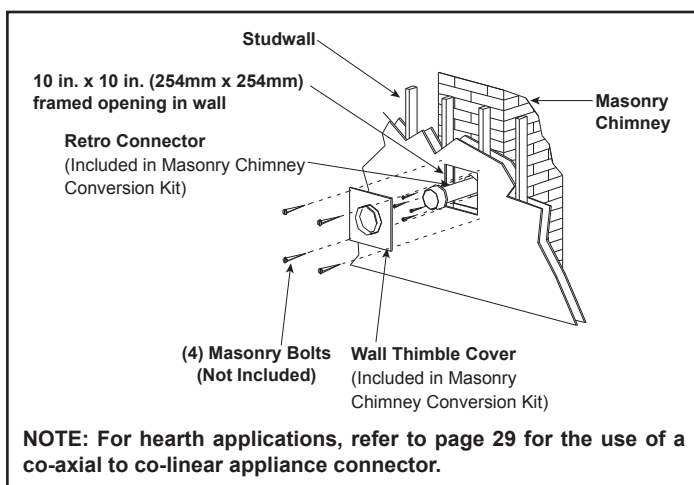
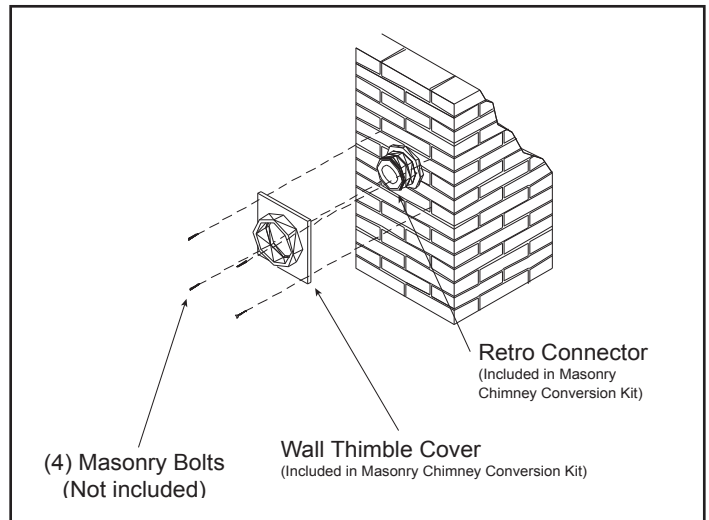

Figure 4.25
Figure 4.30
2. Once the center point of the penetration has been determined, cut a 6 in. (152mm) diameter hole in the masonry. If the hole is too large, the retro connector might not mount properly; if the hole is too small, the appliance might starve for intake air. If there is a frame wall in front of the masonry wall, cut and frame a 10 in. (254mm) square opening in the wall (centered around the 6 in. (152mm) masonry opening). If there is sheet rock only (no studs) in front of the masonry the 10 in. (254mm) opening is still needed, but does not need to be framed. If the hole is framed a wall thimble is required. This allows the retro connector to mount directly on the masonry and provide the correct clearances to combustibles. See Figure 4.25.
- Slide wall thimble cover over retro connector and secure with masonry bolts. See Figure 4.30. If you have a framed wall in front of the masonry, use wood screws to mount wall thimble cover to framed wall, over retro connector and 10 in. (254mm) square framed opening See Figure 4.25. If needed, add a section of direct vent pipe to the retro connector in order to extend through the opening in the wall thimble cover.